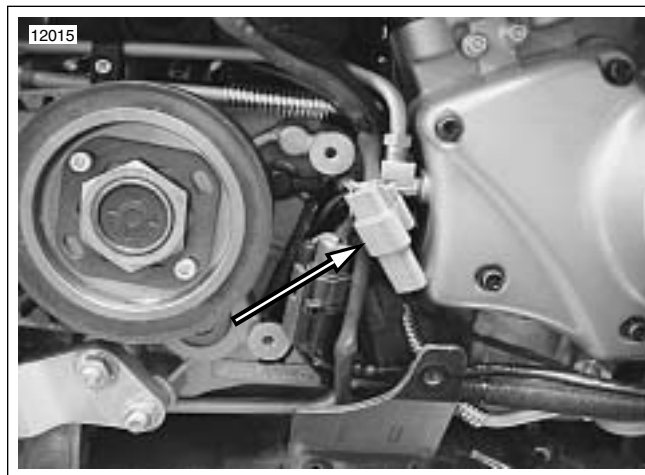

Figure 7-94. Vehicle Speed Sensor
13. See Figure 7-94. Connect the vehicle speed sensor last.